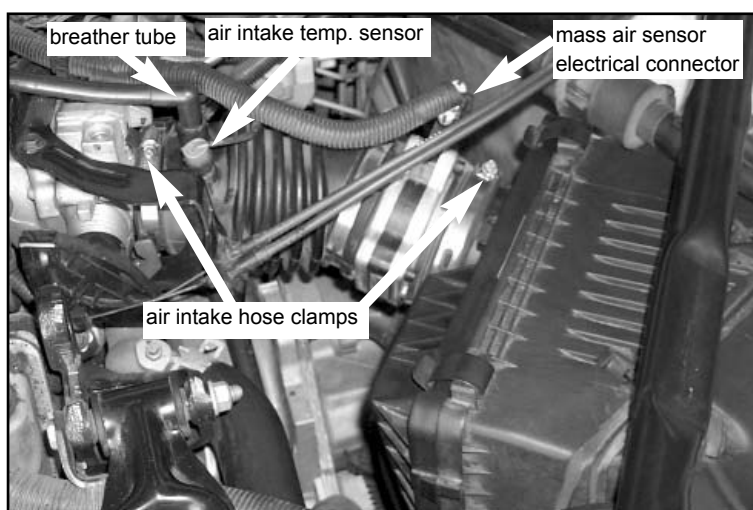

Fig. 1
1. Carefully disconnect the electrical connector from the mass air sensor. (See fig. 1)
2. Carefully disconnect the electrical connector from the air intake temperature sensor. (See fig. 1)
3. Carefully disconnect the crankcase breather tube from the air intake hose. (See fig. 1)
4. Loosen the hose clamp on the air intake hose at the airbox lid and at the throttle body. Remove intake hose from the vehicle. (See fig. 1)